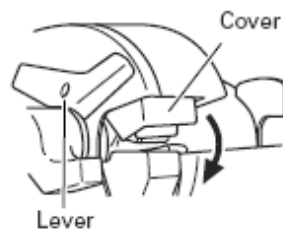

Fig. 16
- Make absolutely sure that the cutter cover is closed when you don't carry out the cutting work. If the cover is kept open, the cutter can jam on foreign objects and cause serious accidents. (Fig. 16)